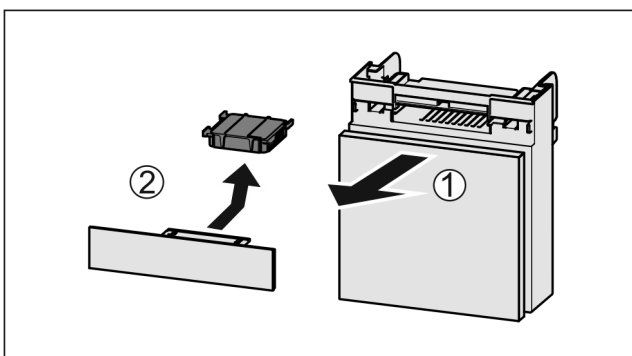

Fig. 80
- ▶ Pull out the compartment Fig. 80 (1).
- ▶ Remove the carbon filter Fig. 80 (2).